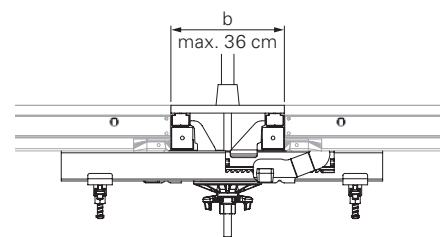

Fig. C8.02b
- When anchoring, ensure that the tie forces are transferred centrally through the Compensation Waler-4 MAR 85 (**33**) to the adjacent panels. (Fig. C8.02b)